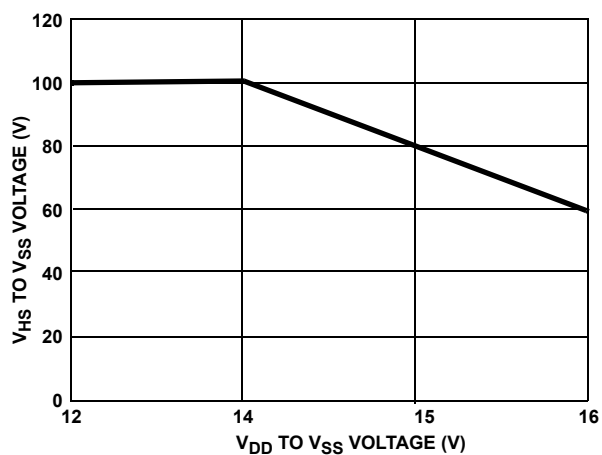

FIGURE 16. V_{HS} VOLTAGE vs V_{DD} VOLTAGE
- The HIP2100 is capable of derated operation at supply voltages exceeding 14V. Figure 16 shows the high-side voltage derating curve for this mode of operation.